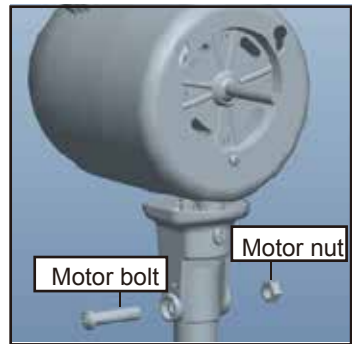

Figure 7.
2. Place the **Motor** on top of the **Telescope Pole**. And secure it by screwing the **Motor Bolt** with **Nut** firmly. *Figure 7.*